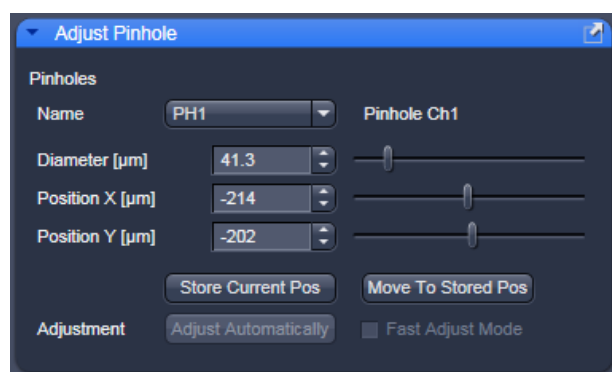

Fig. 147 Manual pinhole adjustment
- Click the LSM **Continuous** action button to start a continuous scan. Optimize the pinhole position in X, Y relative to the PMT using the **Position X [µm]** and **Position Y [µm]** sliders to maximize image brightness (see Fig. 147).